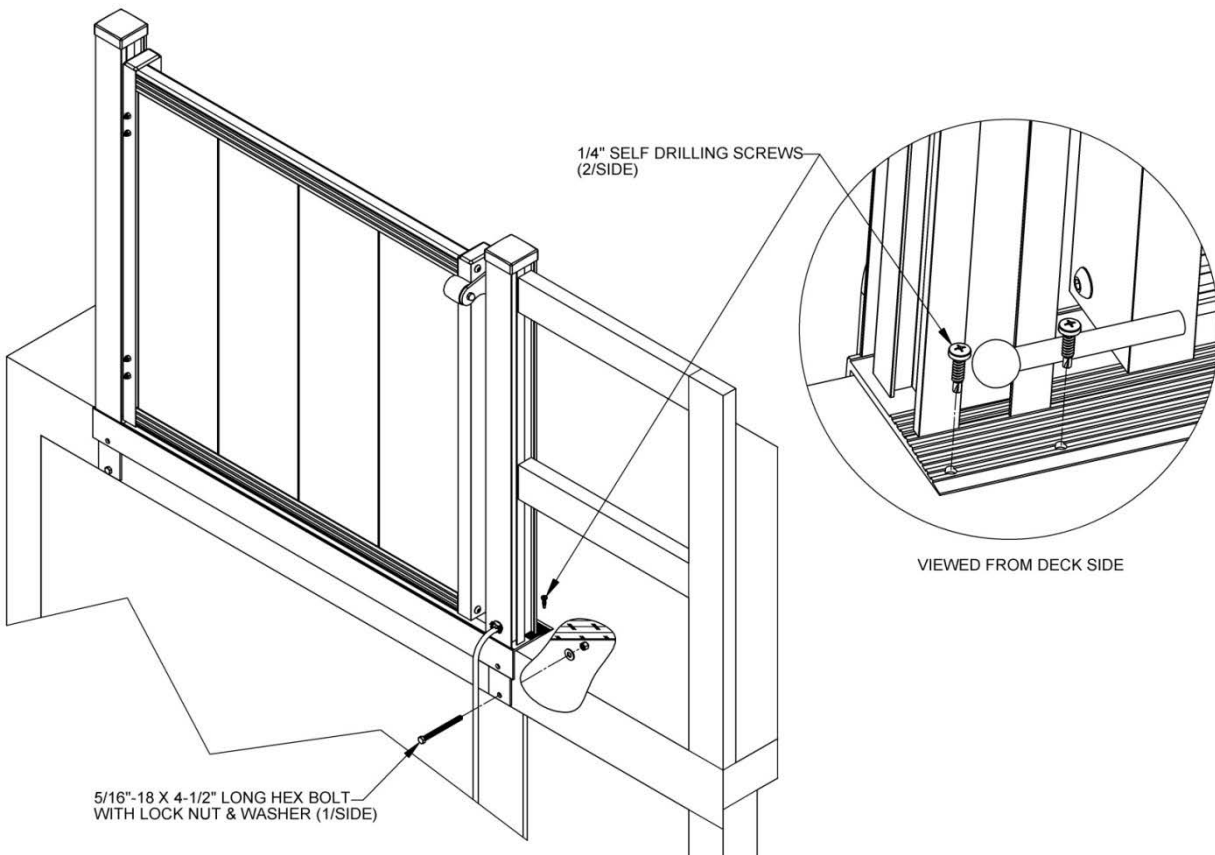

FIG. 6.3
- Once the Top Landing Gate is positioned correctly it can be attached to the porch or deck. The Top Landing Gate will come with four 1/4" self-drilling screws for attaching the Top Landing Gate sill to the deck surface and two 5/16"-18 x 4-1/2" long hex bolts for attaching the Top Landing Gate sill to the deck fascia (FIG. 6.3). If the Top Landing Gate is being attached to a concrete porch or deck these screws and bolts will need to be replaced with concrete anchors and alternate fasteners of the same size (not included).